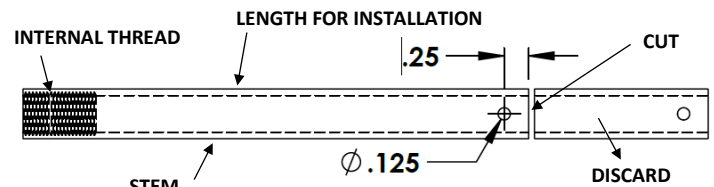

Fig. 1
1. **CUT STEM TO LENGTH (OPTIONAL) Fig. 1**
- Drill .125 (1/8") diameter hole .25 (1/4") from cut end of stem through center of STEM. Fig. 1